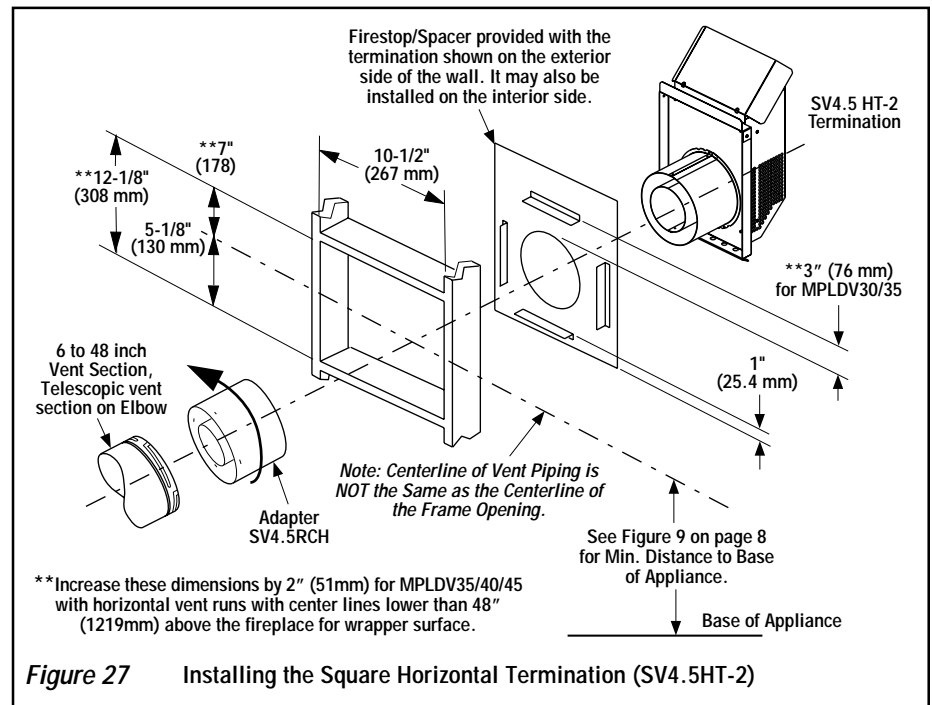

Figure 27 Installing the Square Horizontal Termination (SV4.5HT-2)
M. Attach termination adapter - Attach the adapter (SV4.5RCH - provided with the termination) to the vent section or telescoping vent section), elbow as shown in **Figure 27** in the same manner as any SV4.5 vent component (refer to **Step F**).
N. Install Firestop/Spacer at exterior wall - When using the **square** termination, install the SV4.5HF (Secure Vent) or SF4.5HF (Secure Flex) Firestop/Spacer over the opening at the exterior side of the framing (long side up) as shown in **Figure 27**, and fasten into place. Ensure 5" clearance is maintained by framing above the vent run for MPLDV35/40/45 when center line of the run is **lower** than 48" (12119 mm) above the fireplace top wrapper surface.